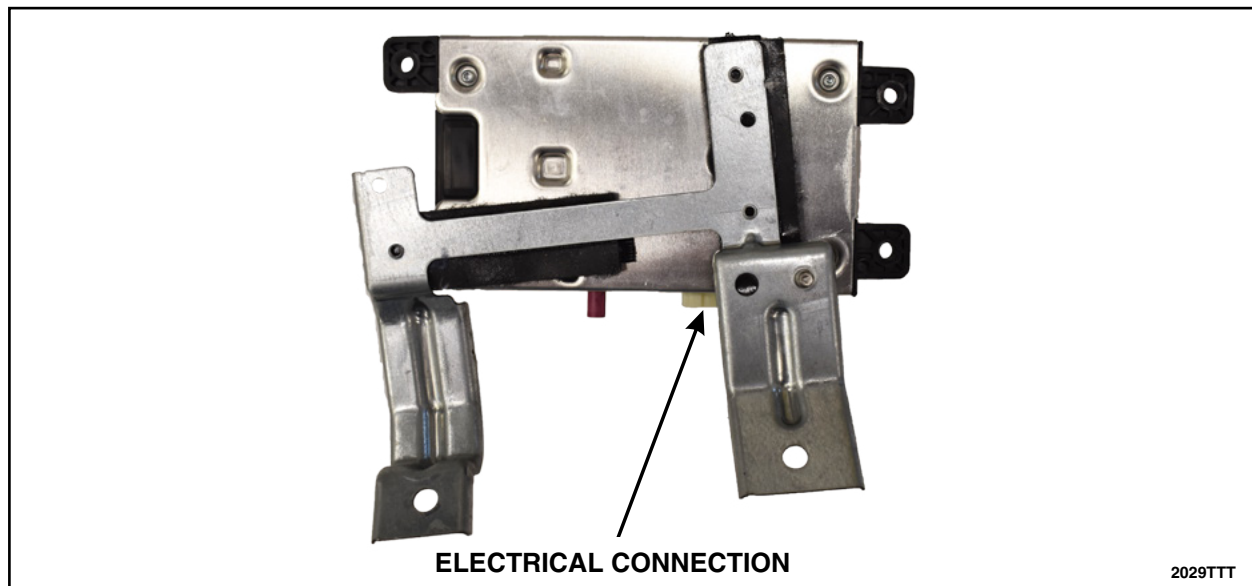

FIGURE 5
8. Install the 4G TCU: See Figure 5.